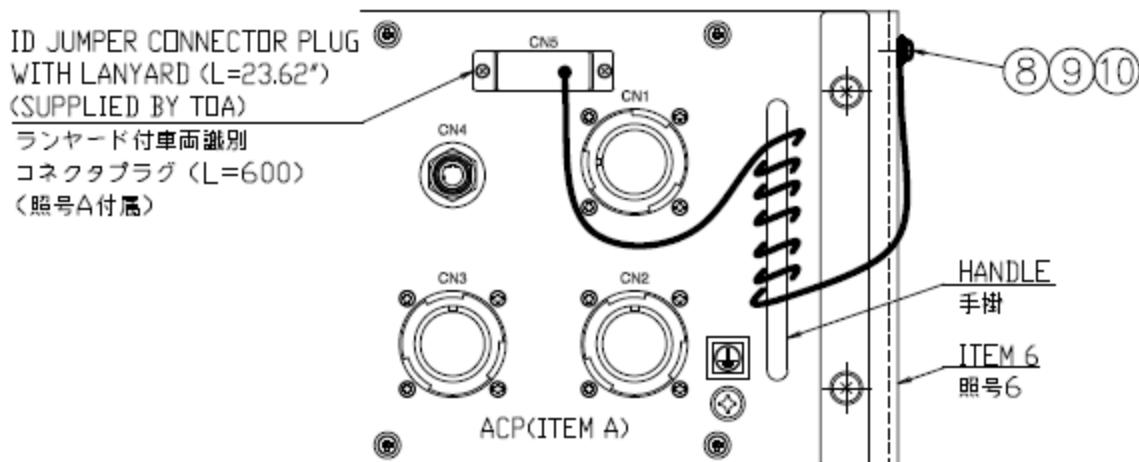

Figure 7-1: Detail View of ID Plug installation in the ACP
2. Disconnect the ID plug from the ACP. Figure 7-1 shows the installation detail of the ID plug for the ACP. First, disconnect the ID plug from the ACP, Second, release the lanyard from the ACP handle. Third, the ID plug is secured to the rack frame. The disconnected ID plug will be reused for an ACP replacement. Therefore, the ID plug should be secured to the rack frame.